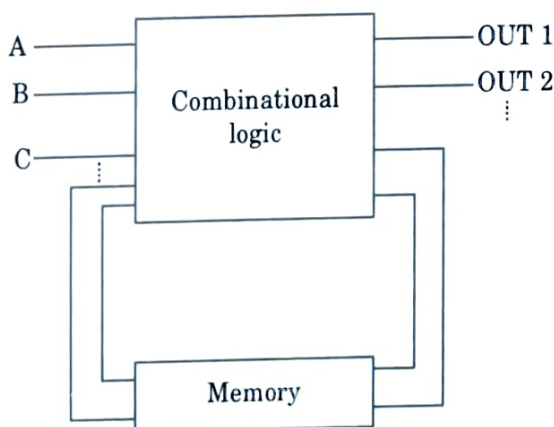

Fig. 3.16.1.
1. Fig. 3.16.1 shows a sequential circuit consisting of a combinational circuit and a memory block in the feedback loop.